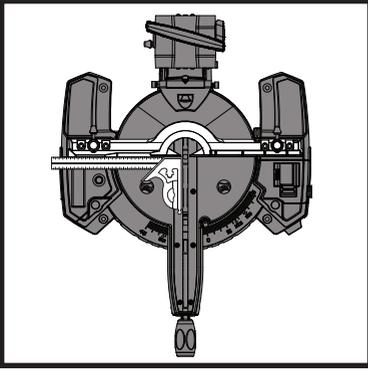

Fig 20
- Use an engineers square (not supplied) to check that the angle between the machines fence guide and the blade is 90° . (Fig 20)